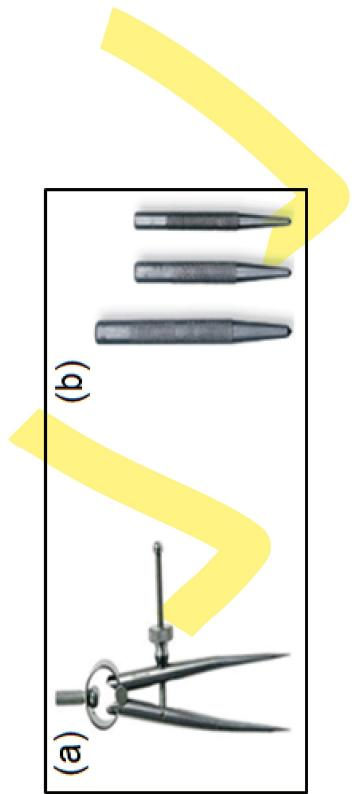

Figure 2.10 (a) Divider , (b) Center Punches
2.2.2.3 Divider and Punches: Dividers are used to mark arcs or circles on mild steel work pieces. They are generally made of medium carbon steel (Figure 2.10 (a)). The punch is used for making indentations on a work piece already marked with scriber. Most common type of punch used in fitting shop is center punch (Figure 2.10 (b)) with its tip pointed at 90 degrees angle. They are manufactured from carbon steel.